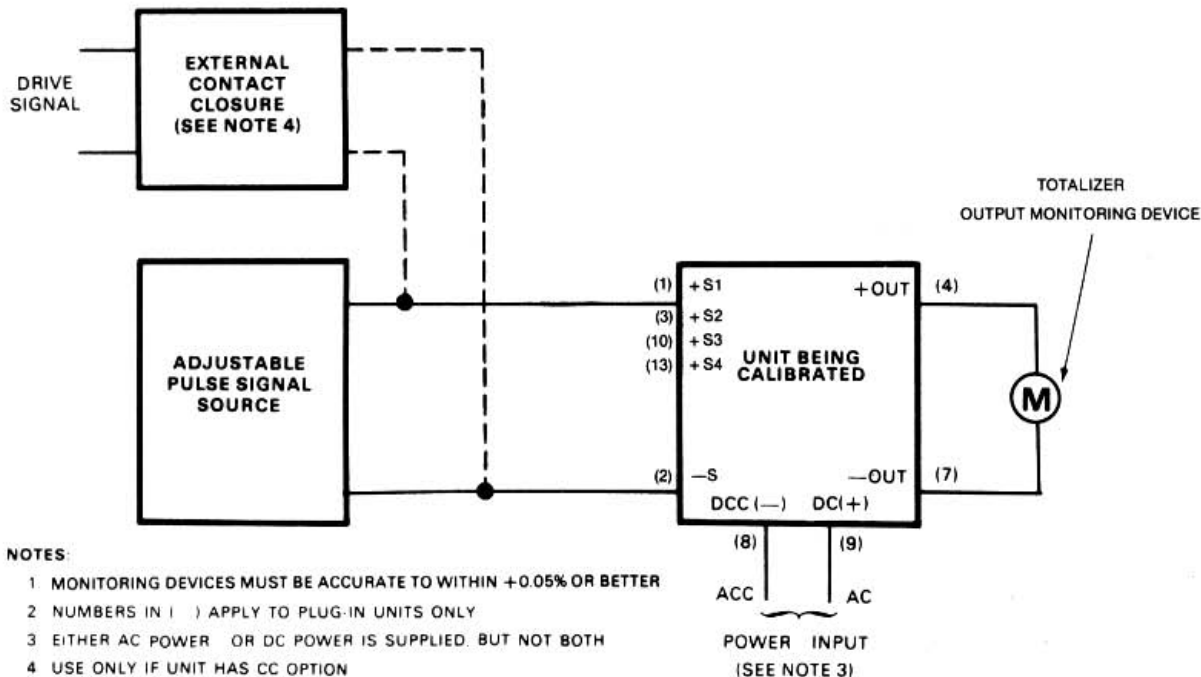

Figure 2-1.
The test equipment setup required for calibration of all units is identical except for connection identification. Figure 2-1 show the general test setup configuration. Connection nomenclature refer to terminal markings on the standard units with CP, AB, RAA, RAT, PM, and NEMA boxes mechanical options.
Plug-in units equipment test setup is the same as the one shown in Figures 2-1, except that printed circuit board connections are identified in that figure by numbers in parentheses. Connection identification numbers are etched in the component side of the PC board. Plug-in units inserted in a rack also use the test setup shown in Figure 2-1 with card terminal connections identified by numbers in parentheses. These include either the rack mount (RMR) or the surface mounted (SMR).
- Connect unit and test equipment as shown in Figure 2-1.